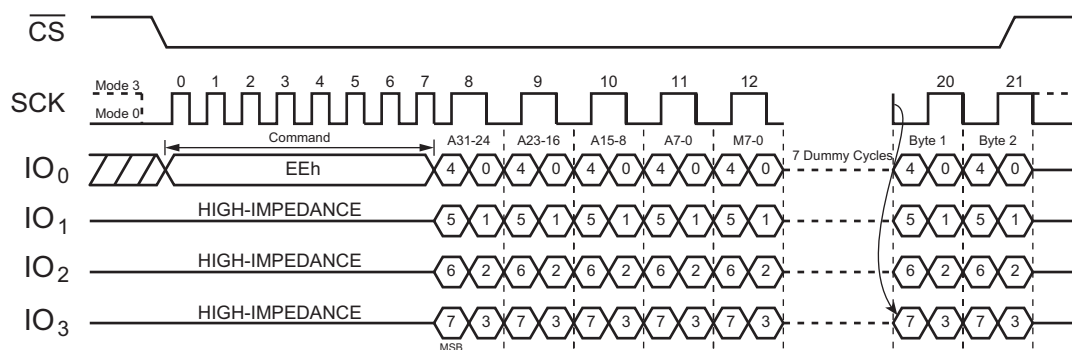
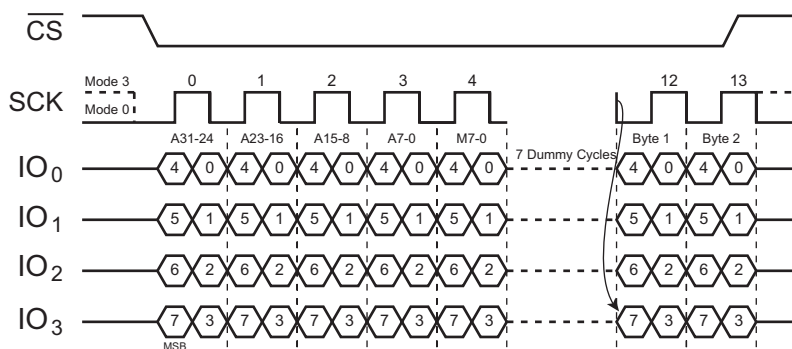

Figure 63. DTR Quad I/O Fast Read with Four-Byte Address (SPI Mode, Initial command or previous M5-4≠10)
Figure 66. DTR Quad I/O Fast Read with Four-Byte Address (QPI Mode; Initial command or previous M5-4=10)
The DTR Quad I/O Fast Read with Four-Byte Address (EEh) command is similar to the Fast Read Dual I/O (BBh) command except that address and data bits are input and output through four pins IO0, IO1, IO2, and IO3, as well as four Dummy clocks, are required in SPI mode before the data output, as shown in Figure 63 to Figure 66. The Quad Enable bit (QE) of Status Register must be set to enable.